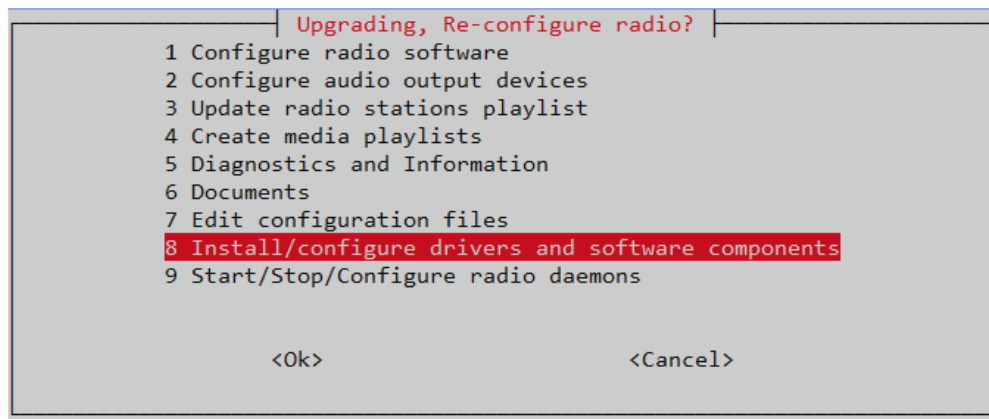

Figure 206 The radio-config menu
- Select option **6 Documents and Tutorials** from the **radio-config** menu shown in *Figure 206 The radio-config menu* on page 144.
- Select option **8 Install/configure drivers and software components** from the **radio-config** menu shown in *Figure 206 The radio-config menu* on page 144.
- Select option **1 Install IR remote control** from the **radio-config** menu shown in *Figure 206 The radio-config menu* on page 144.